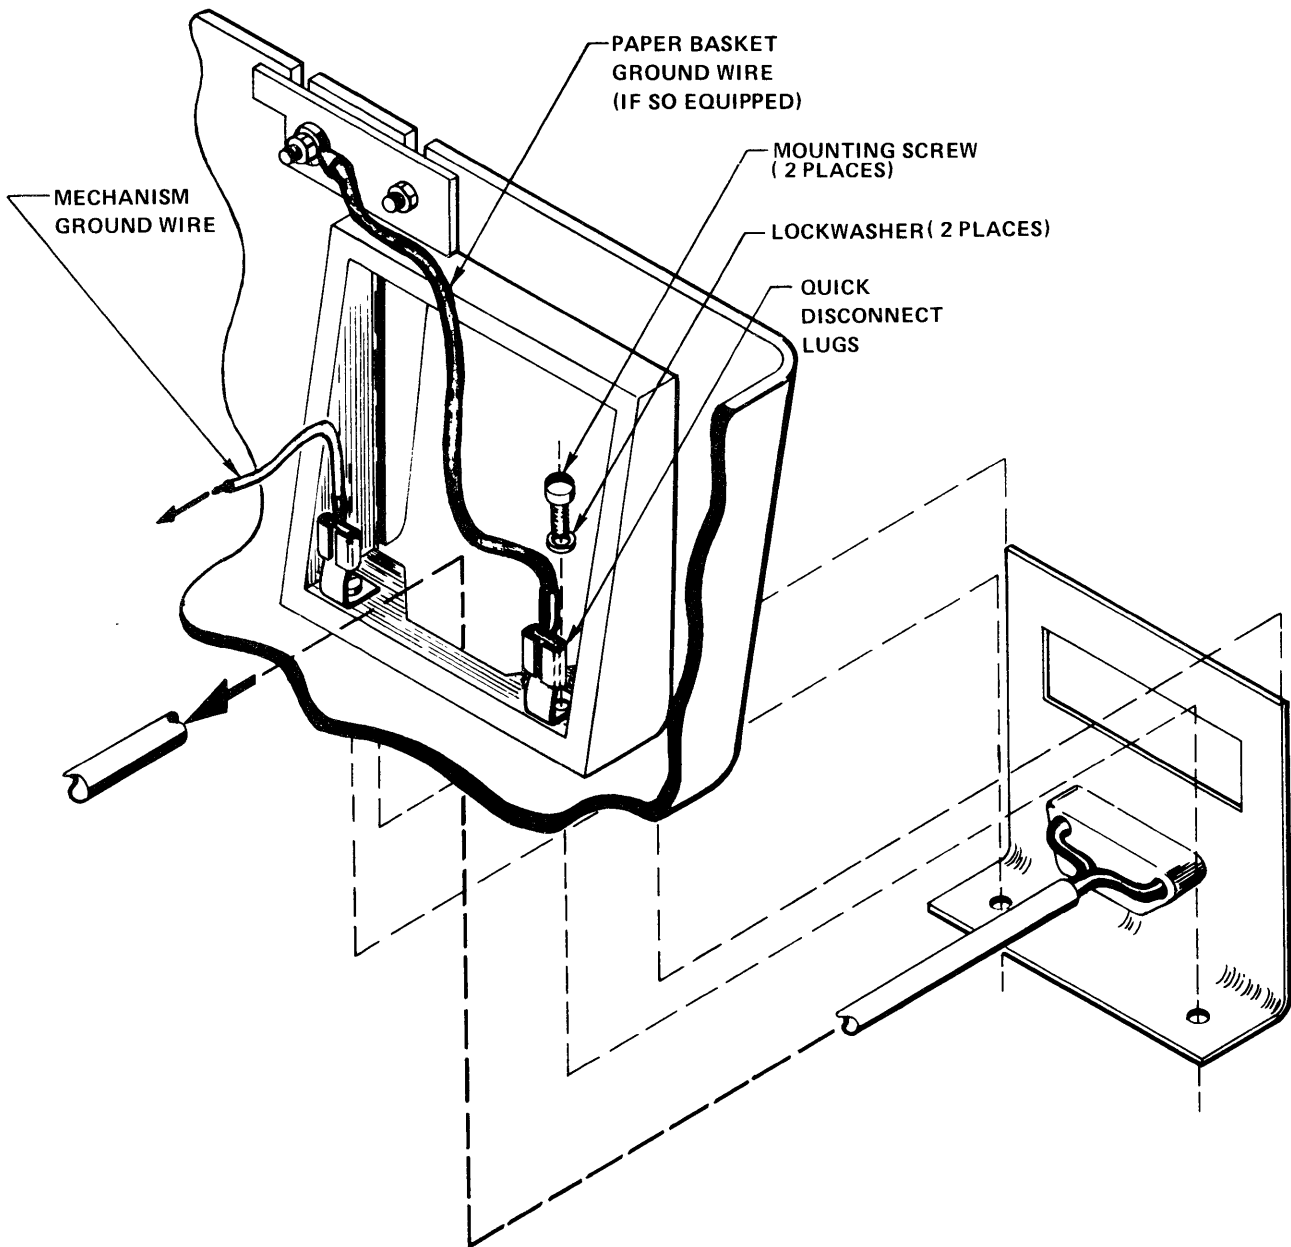

Figure 2. Pictorial Wiring Diagram
- a. Remove mechanism ground wire (and paper basket ground wire if so equipped) from quick disconnect plugs at EIA cable panel mounting screws located inside right rear corner of case. (Refer to Figure 2).